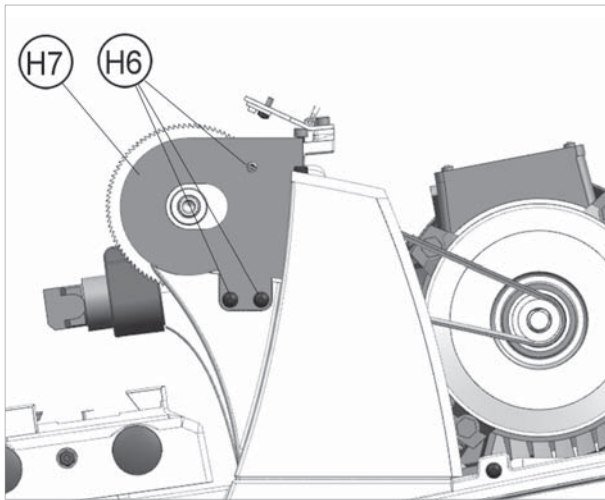

Fig.81
- 8) Loosen the 3 screws (H6) and remove the belt protection (H7) (Fig.81).